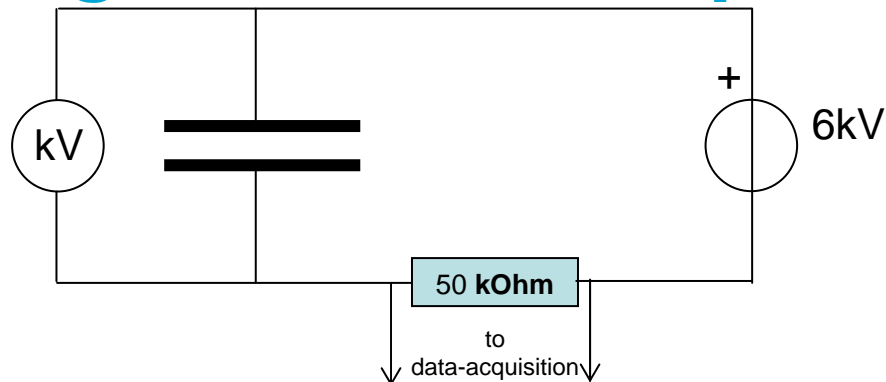

Figure 3
2. Again the plates are set at minimum distance, just separated by the Teflon strip. A 50kΩ resistor is inserted in the ground-lead and a connection is made to the data-acquisition system (see Figure 3). The 6kV power supply is connected to the capacitor. The voltmeter now reads 6kV in all situations.